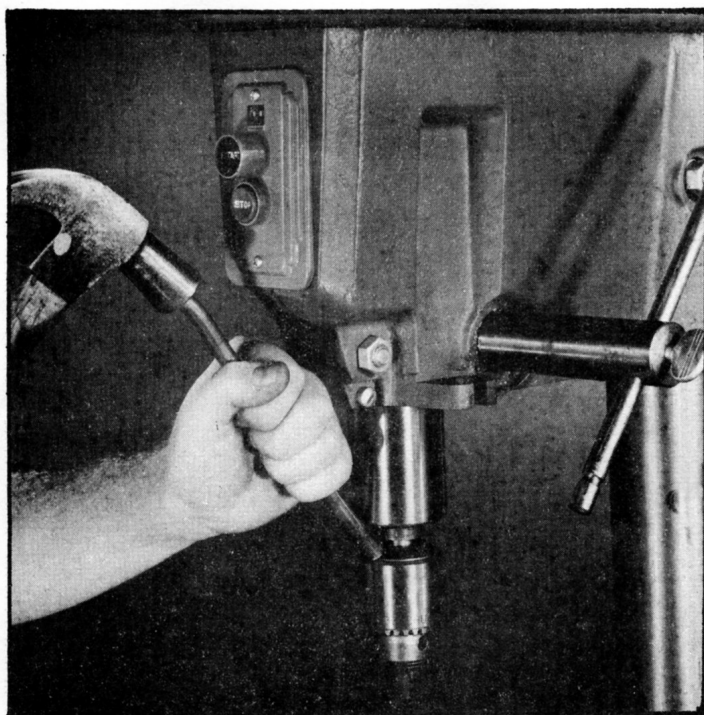

Fig. 5.
5. Using a hammer and a brass rod, tap once on the chuck as shown in Fig. 5. Then turn the chuck with your hand about a quarter of a turn and tap again. Repeat this until the chuck is free from the spindle.